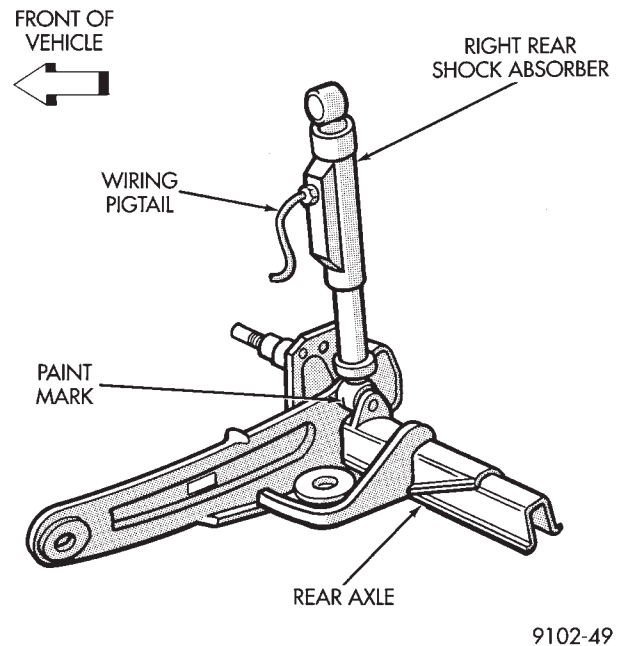

Fig. 1 Right Rear Shock Absorber Installation
- (1) Install shock assembly, see Shock Absorbers, Installation.
- (2) Route height sensor wire through retaining clips and then tie strap to fuel filler tube.
- (3) Snap height sensor connector into underbody harness connector.
- (4) Install wheel/tire assembly.
- (5) Height sensor wiring harness and white paint mark on bottom shock eye must face to the front of the vehicle (Fig. 1).